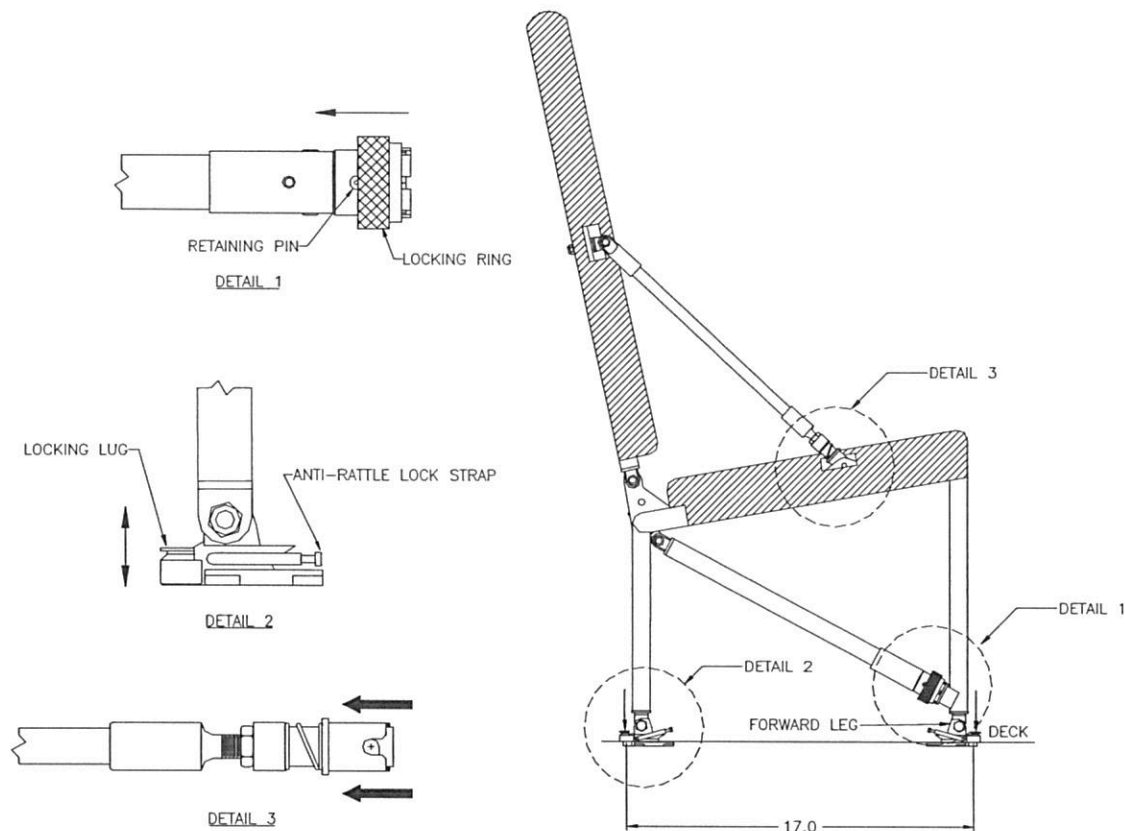

Figure 1.2.1 Seat Installation. Optional Headrest Not Shown.
1.2.1 Setup and Installation (see Figure 1.2.1):
1. Unfold forward legs and lower diagonal arms. On each lower arm quick-release fitting, push in the retaining pin and retract the locking ring (detail 1, Figure 1.2.1). Position the arms to align fittings with studs on forward legs. Push forward leg back to engage studs in fittings, then extend locking rings to close jaws.
2. Unfold seat back and upper diagonal arms. Position the arms so the quick-release fittings are over the corresponding pins on the seat frame. Retract the spring-loaded collar on one fitting, push the fitting over the pin, then release the collar. Repeat for the opposite side (detail 3, Figure 1.2.1).
3. Unfold rear legs and position the seat over the seat tracks at the desired fuselage station. Drop the forward feet into the tracks (locking lugs must be in the retracted position), slide forward or aft 1/2 inch, and push the locking lugs down to lock the forward feet into the track (detail 2, Figure 1.2.1).